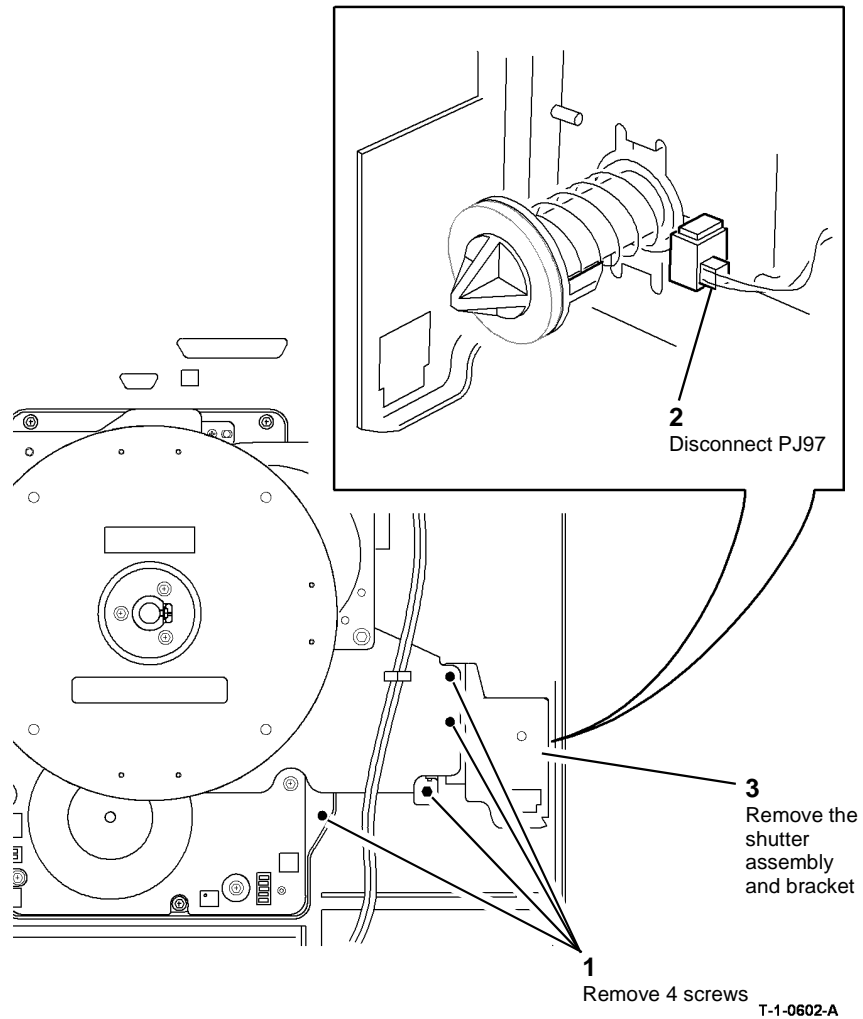

Figure 3 Remove shutter assembly
8. Remove the shutter assembly and the support bracket, **Figure 3**.